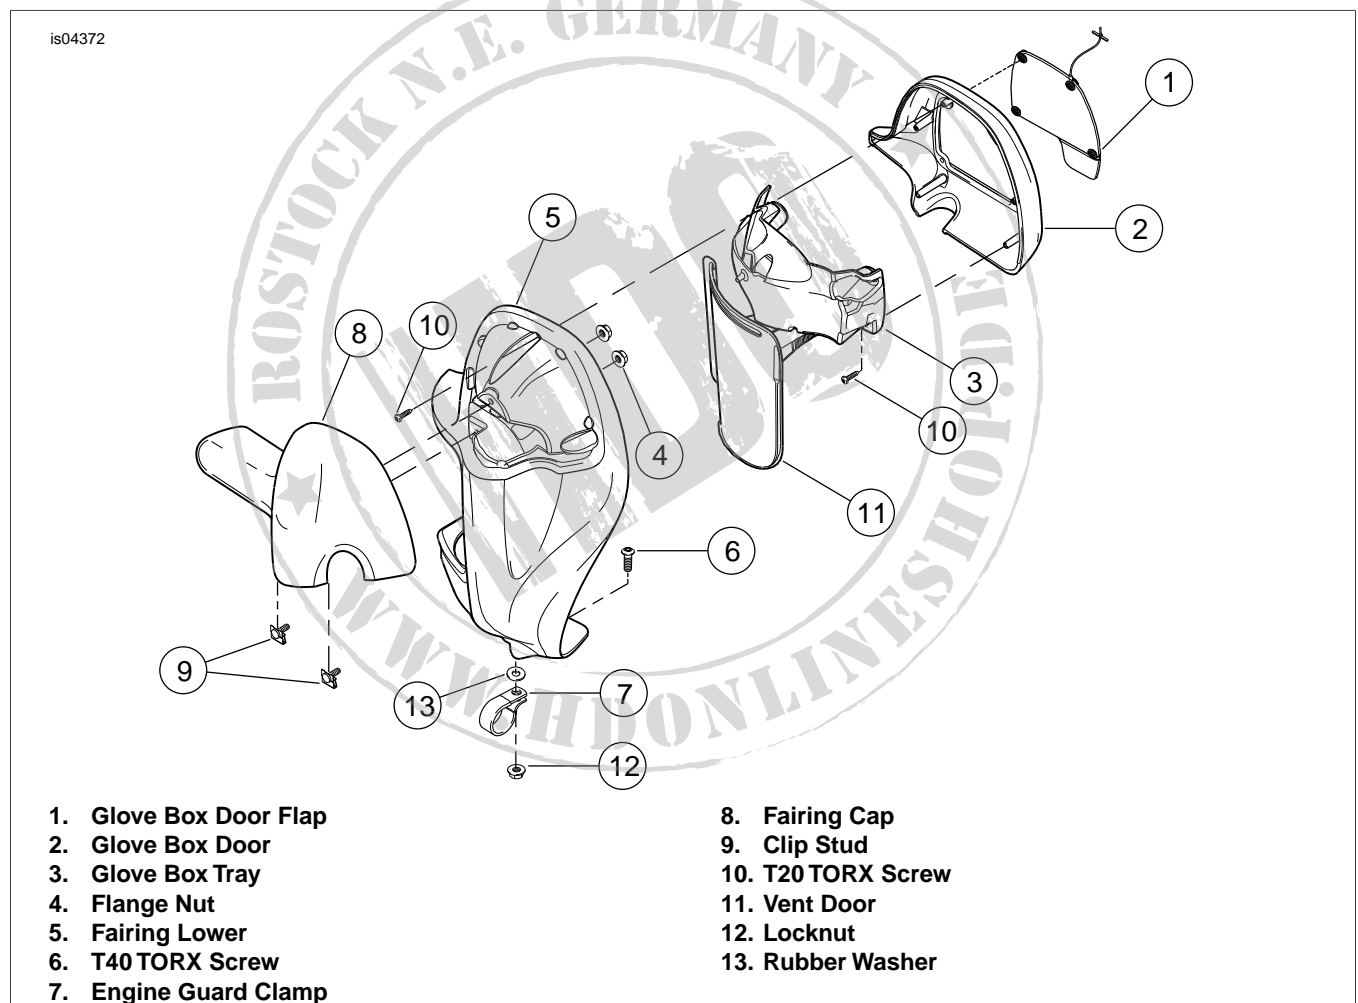
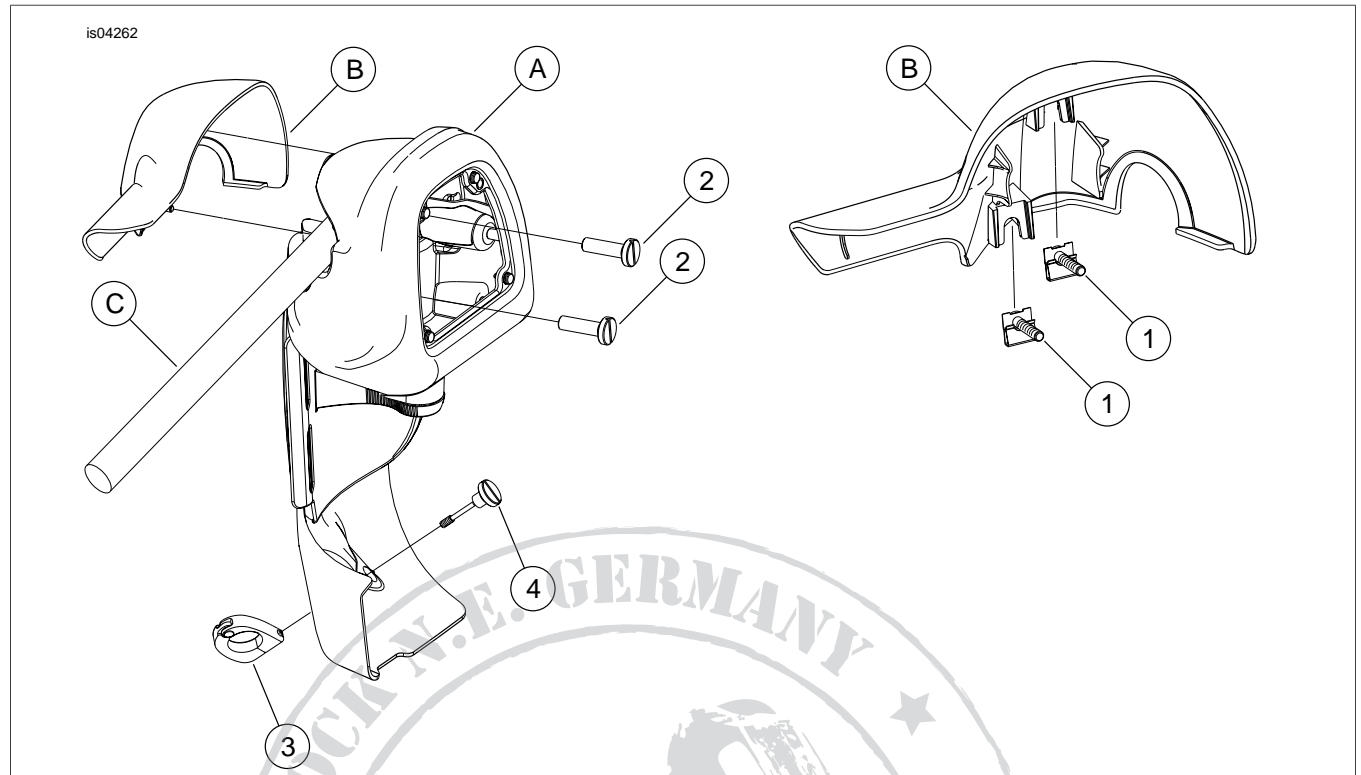

Figure 1. Stock Fairing Lower Assembly
Figure 3. Service Parts: Detachable Fairing Lower Hardware Kit
See Figure 3 and Table 1.
1. See Figure 1. Unfasten snaps to release glove box door flap (1). Release anchor on draw string from hole in glove box door (2). Set door flap aside.
2. Reaching into glove box, remove two flange nuts (4) from clip studs (9) and remove fairing cap (8). If necessary, push ends of studs through holes in glove box tray (3) and fairing cap (8) or damage may result.
3. Hold locknut (12) at bottom of fairing lower (5) and turn inside T40 TORX® screw (6) to free assembly from engine guard clamp (7). Save rubber washer (13). Discard clamp and hardware.
5. Remove three T20 TORX® screws (10) to release glove box door and glove box tray (3) from fairing lower. Do not remove vent door (11) from tray.
1. See Figure 1. Use a flat blade screwdriver to remove original clip retainer bolts (9) from fairing cap (8) using care not to damage clip mounts.
2. See Figure 3. Press new clip retainer bolts (1) from kit onto clip mounts.
- a. With glove box liner installed in fairing lower (A) carefully mark location of the two fairing cap (B) mounting holes onto the glove box liner.
- b. Use marks to cut or punch holes approximately 9/16 inch round. Holes should be sufficient to allow shank of thumb nuts (2) to pass freely for easy installation of fairing cap (B).
5. See Figure 3. Insert thumb screw (4) through top side of fairing lower (A) and rubber washer, as shown in Figure 1. Apply small amount of anti-seize lubricant to threads of thumb screw (4). Thread thumb screw (4) into top half of engine guard clamp (3).
6. Attach fairing lower (A) and engine guard clamp (3) to engine guard, hinge portion of engine guard clamp (3) should face towards the front of the motorcycle. Loosely thread thumb screw (4) into lower portion of engine guard clamp (3).
7. Position fairing lower (A) to upper section of engine guard. Install fairing cap (B) over engine guard and put retainer bolts (1) through mounting holes in fairing lower (A). Loosely thread thumb nuts (2) onto retainer bolts (1) from inside the glove box.